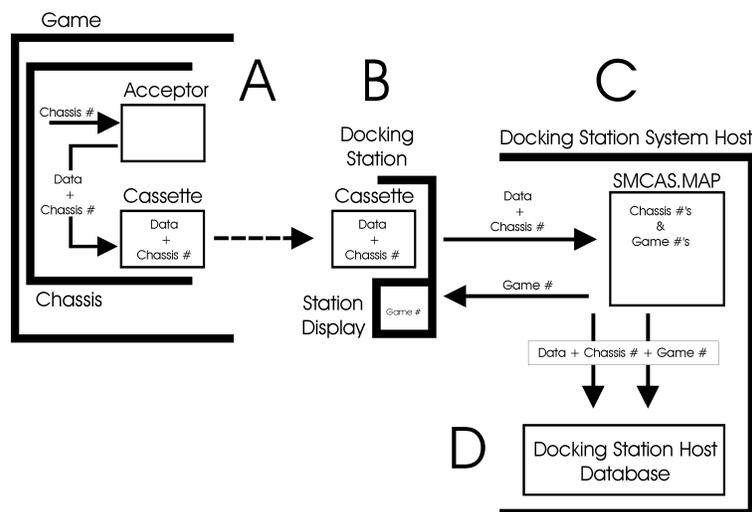

Figure B-2 Docking Station Connection Scheme
1. Refer to Figure B-2. DO NOT remove the slotted screw.